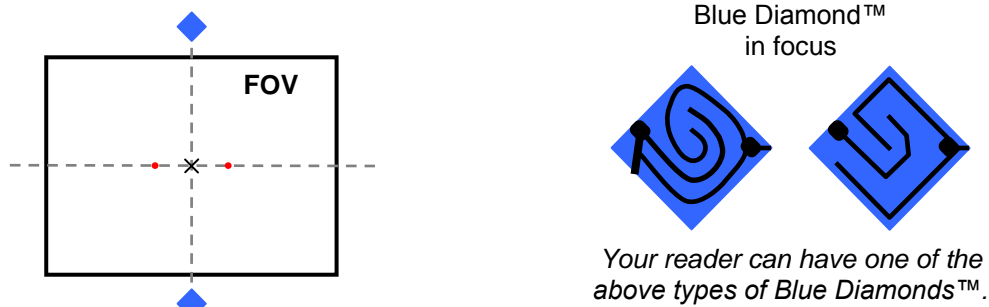

Figure 6 – Focus Function Using Blue Diamonds™
- a. At the correct reading distance (see the Reading Diagrams in Chapter 6 of this Reference Manual), adjust the Focus ring towards the "Near position" until the Blue Diamonds™ are perfectly in focus, see Figure 6.